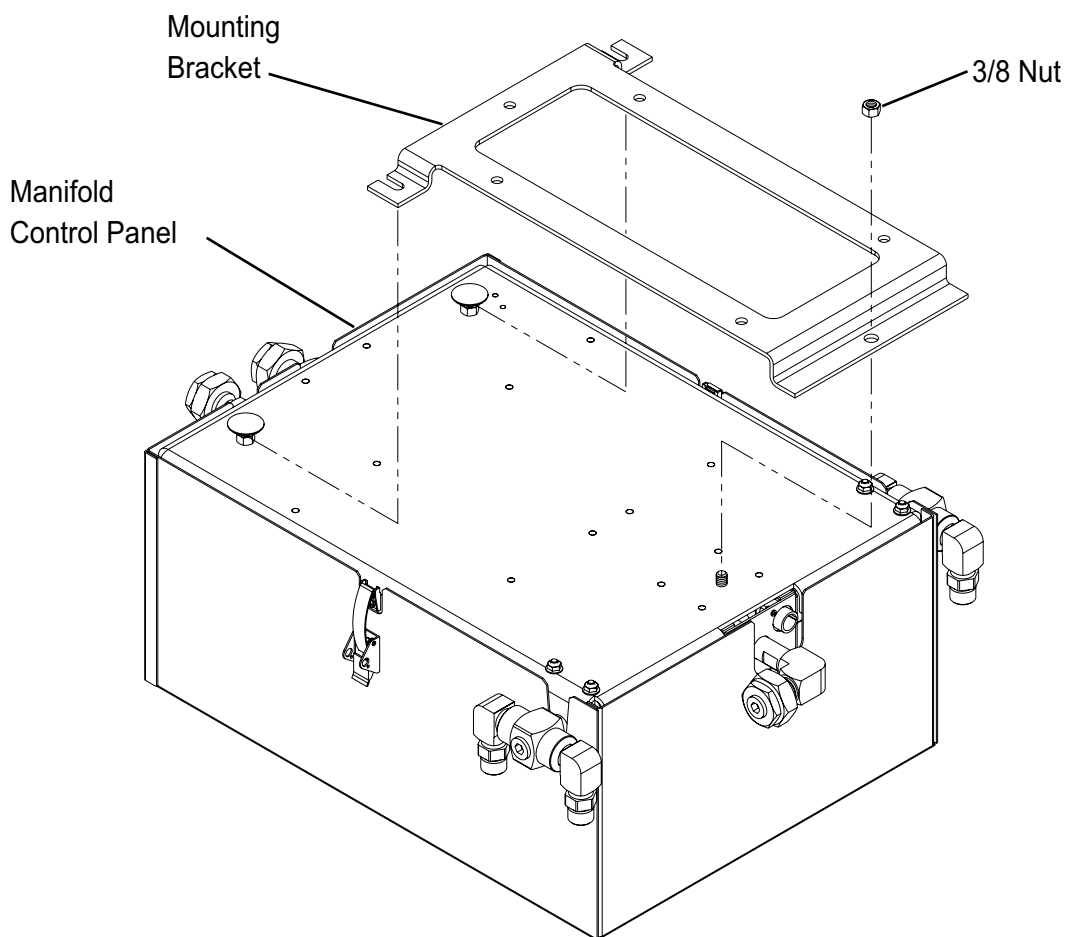

Figure 1
2. Mounting bracket is shipped attached to back of manifold control panel. Remove lower 3/8" mounting nut as shown in Figure 1. Pull bottom of bracket away from manifold control panel and slide bracket off two upper control panel mounting bolts.